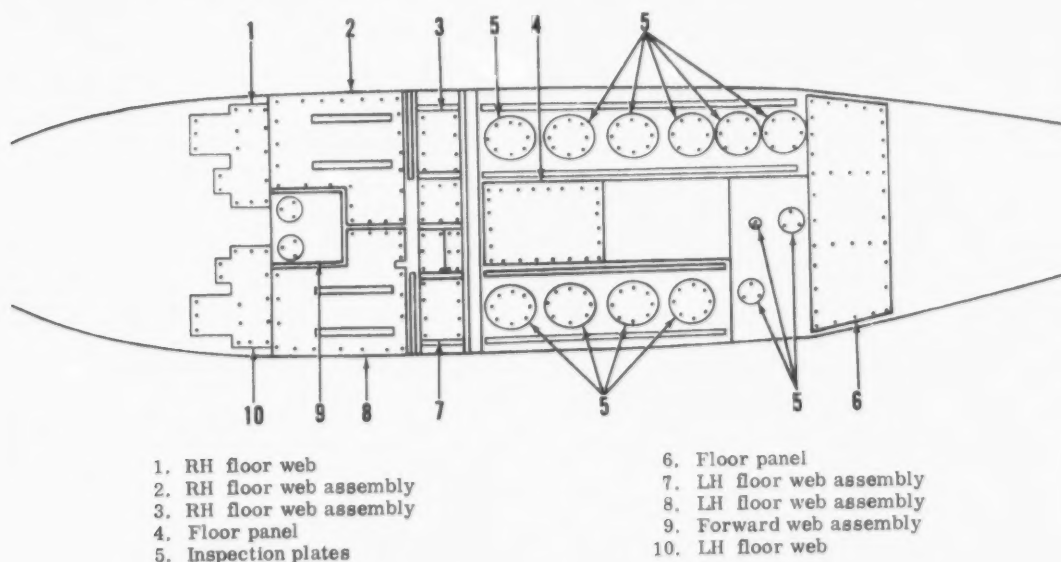
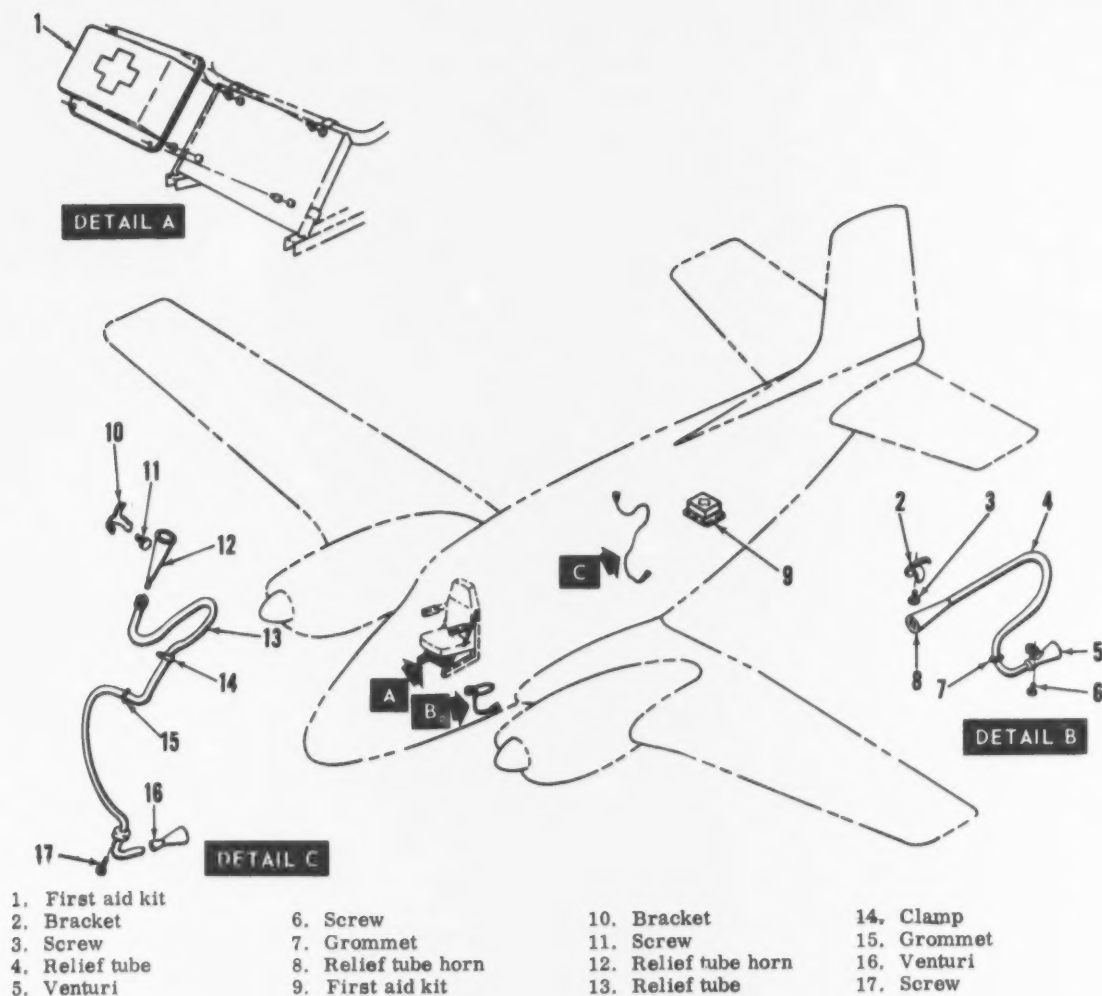

Figure 4-26. Floor web and panel installation (U-8F)
Figure 4-27. Relief tubes and first aid kit installation (U-8F)
4-177. There are five aluminum floor webs and web assemblies in the flight compartment. (See figure 4-26.)
a. Removal. (1) Remove pilot's and copilot's seats if floor web assemblies (2 and 8, figure 4-26) are to be removed. Refer to paragraph 4-159 for seat removal.
(2) Remove screws securing seat tracks to floor web assemblies (2 and 8).
(3) Remove carpeting in accordance with paragraph 4-81.
(4) Remove screws securing floor webs (1 and 10) and web assemblies (2, 8, and 9) to airframe structure. Remove floor webs and web assemblies.
b. Cleaning. Clean floor webs and web assemblies with dry cleaning solvent (item 6, table 1-8) and dry with compressed air.
d. Installation. (1) Position floor webs (1 and 10, figure 4-26) and web assemblies (2, 8, and 9) on flight compartment airframe structure and secure with screws.
(2) Install carpeting in accordance with paragraph 4-81.
(3) Secure seat tracks to floor web assemblies (2 and 8) with screws.
(4) Install pilot's and copilot's seats in accordance with paragraph 4-159.
4-179. A relief tube (4, figure 4-27) is secured to the frame of the pilot's seat with a bracket. The tube is routed through grommets in the flight compartment floor web assembly and the fuselage skin to a venturi mounted on the underside of the fuselage.
a. Removal. (1) Remove tape and wire from ends of relief tube (4, figure 4-27). Detach relief tube from relief tube horn (8).
(2) Remove pilot's seat in accordance with paragraph 4-159.
(3) Remove seat tracks by removing screws.
(4) Remove carpeting in accordance with paragraph 4-81.
(5) Remove floor web assembly (8, figure 4-26) by removing screws.
(6) Remove relief tube (4, figure 4-27) from venturi (5).
(7) Remove clamps securing relief tube and remove relief tube from aircraft.
(8) Remove screws (6) and remove venturi (5) from fuselage skin.
(9) Remove screw (3) and remove bracket (2) from frame of pilot's seat.
c. Inspection. (1) Inspect horn and venturi for cracks.
d. Installation. (1) Route relief tube (4, figure 4-27) through grommet (7) in fuselage skin and secure with clamps.
(2) Attach venturi (5) to fuselage skin with screws (6).
(3) Attach bracket (2) to frame of pilot's seat with screw (3).
(4) Route relief tube (4) through floor web assembly (8, figure 4-26) and secure floor web assembly to airframe structure with screws.
(5) Attach relief tube (4, figure 4-27) to relief tube horn (8) with lock wire and insulation tape (item 53, table 1-8).
(6) Attach relief tube (4) to venturi (5) with
(7) Install carpeting in accordance with paragraph 4-81.
(8) Position seat tracks on floor web assembly (8, figure 4-26) and secure with screws.
(9) Install pilot's seat in accordance with paragraph 4-165.